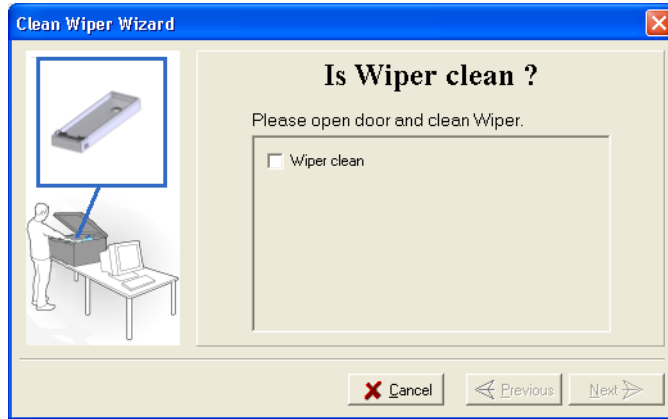

Figure 7-35: Wiper Cleaning wizard during steps 7–10
- In the wizard screen (see figure 7-35), confirm that the wiper blade is clean, and click Next.